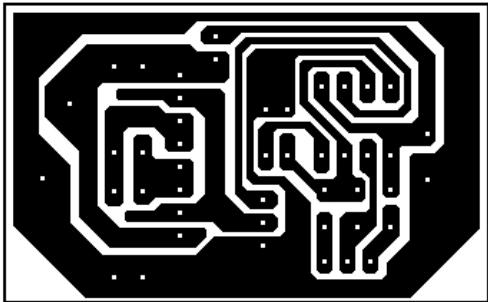

Fig. 151
- 1) Create the design in your favourite drawing package or circuit design software. It has to be laid out reversed left-to-right (Figure 151). I prefer the GIMP but just about any will work.